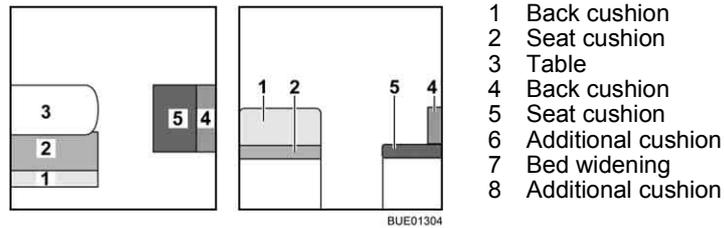

Fig. 121 Prior to conversion
- Convert the table (Fig. 121,3) to a bed foundation (see section 6.10).
- Remove the back cushion (Fig. 121,1) and lay it aside.